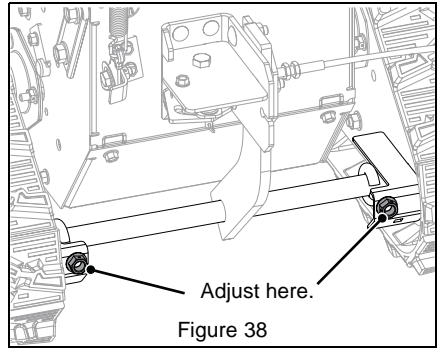

Figure 38
2. Adjust tension as needed with track adjusters. Tighten nut to increase tension; loosen nut to decrease tension. See Figure 38.
If unit does not travel correctly, adjust track tension. See Figure 38.